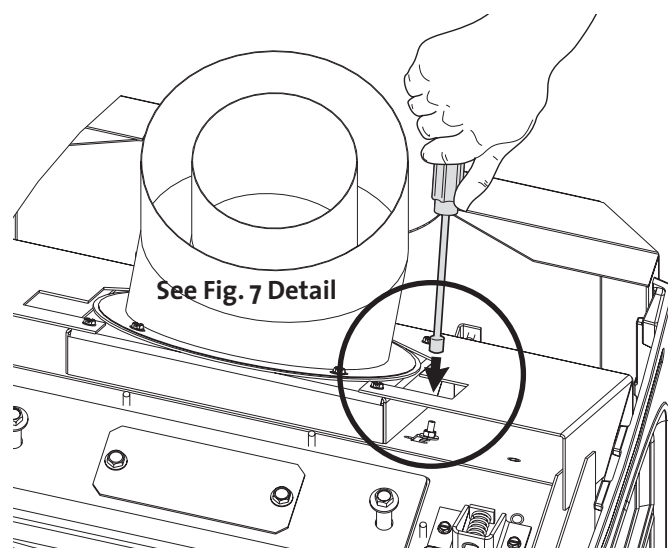

Figure 6.
3. Locate the pivot pin at the right side of the firebox top. Use a 7 mm or 9/32 nut driver to loosen the nut on the pivot pin and then push the pin to the left to disengage it from the current factory-set position. Move the pin forward and into the slot appropriate for your specific vent configuration. See Figs. 6 and 7.